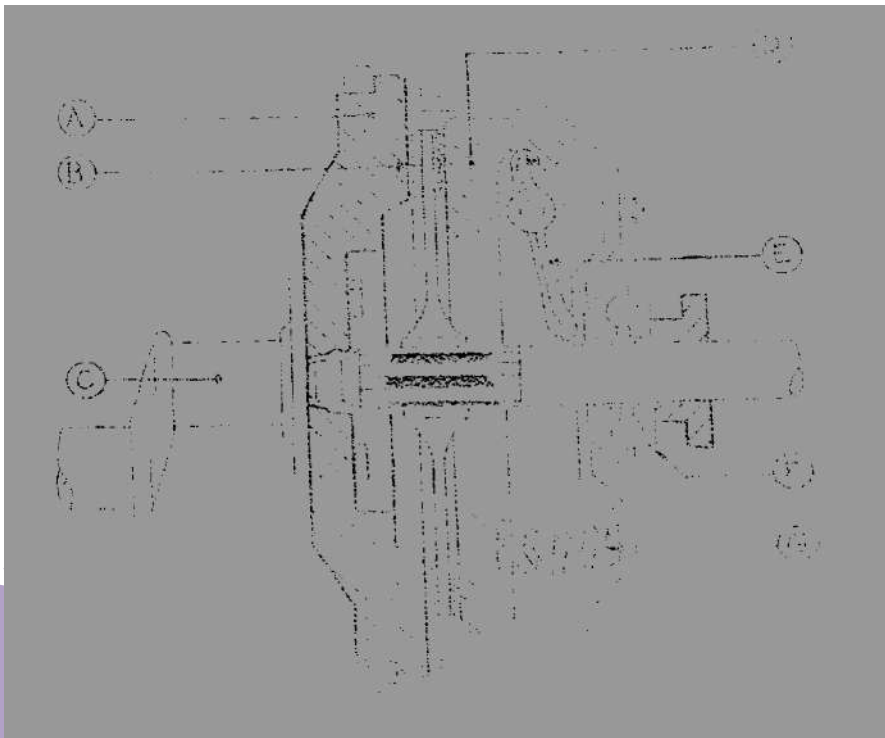

FIGURE 4
3.4 FIGURE 4, DIAGRAM SHEET 2 (attached) shows the single-plate clutch assembly.